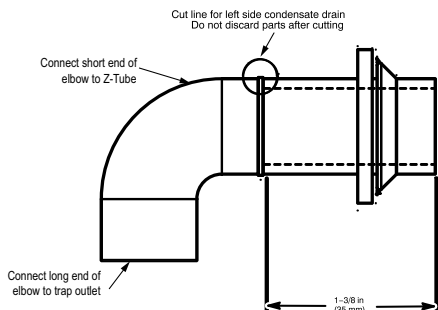

Fig. 17 – Modify Rubber Drain Elbow
3. The Z-pipe is connected to the condensate trap and the outside of the furnace by modifying the formed rubber drain elbow as shown in Fig. 17.
4. Remove the formed grommet from the rubber drain elbow by cutting the elbow along the vertical line located about 1-3/8 in. (35 mm) away from the formed grommet. See Fig. 17. **DO NOT DISCARD THE FORMED GROMMET OR THE RUBBER ELBOW.** Both of these pieces will be used.
**TIP FROM CONTRACTORS:** When installing the furnace horizontally, use the entire drain elbow (that is, do **NOT** cut as shown in Fig. 17 to connect the trap to the drain line. This helps to prevent bumps and shocks to the drain line from damaging the furnace drain trap. Avoid misalignment of the drain pipe which may cause kinks in the elbow.